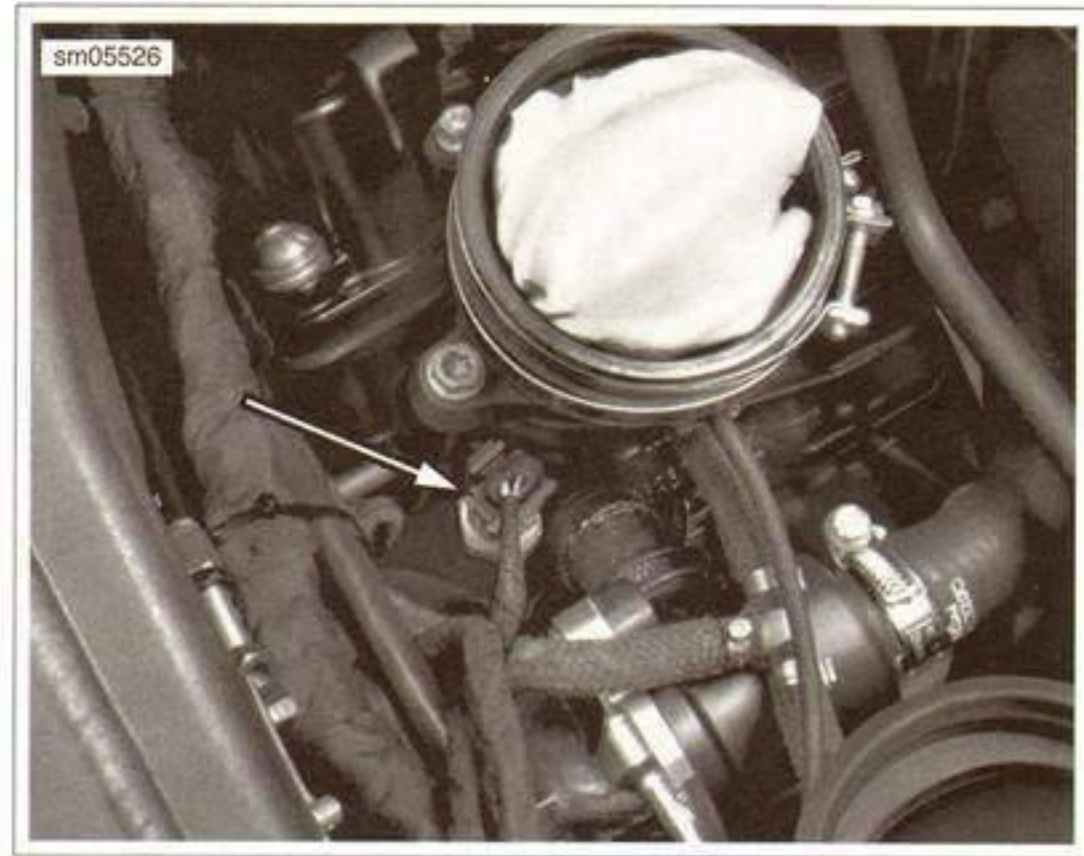

Figure 3-53. Engine Temperature Sensor
1. See Figure 3-53. Connect ECT [90] sensor connector.